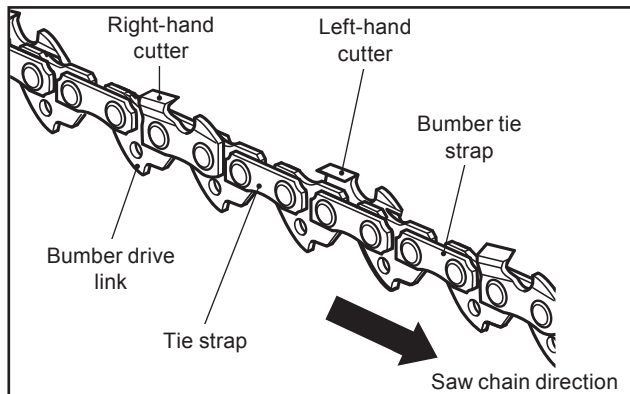

Fig. 39
- The height difference between the tooth and the ridge is the cutting depth. When sharpening the saw chain (12) you have to consider the following points (Fig. 39).